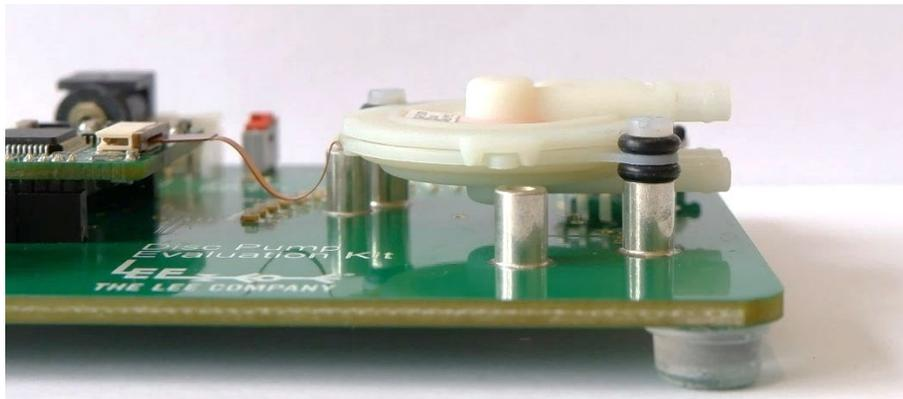

Figure 17. Example of recommend pump mounting
- Unscrew the pump mounting screws (Figure 17).